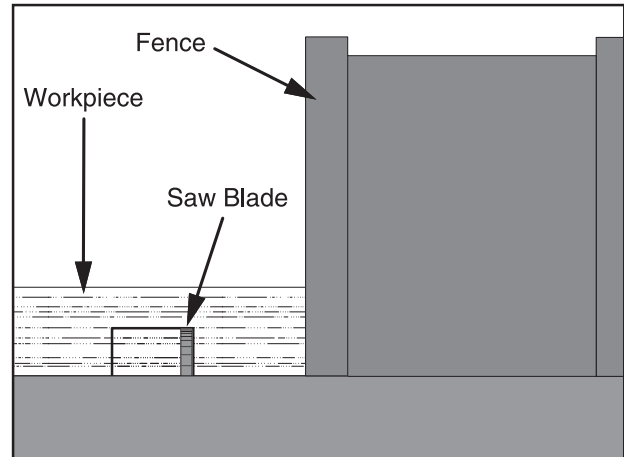

Figure 47. Single-blade dado first cut.
5. If dadoing the length of a workpiece, align the blade to cut one of the dado sides as shown in **Figure 47**.